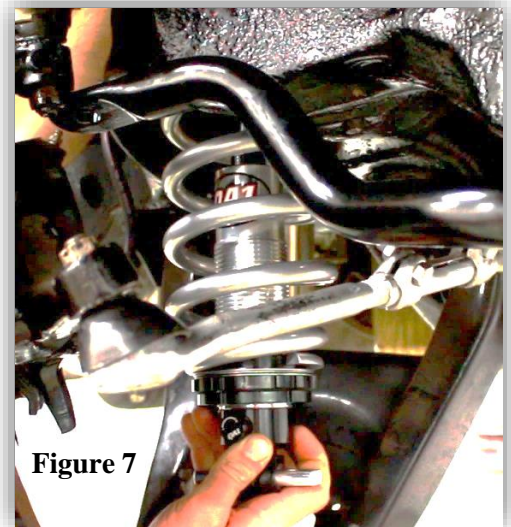

Figure 7
6. Insert the assembly into the upper spring pocket. **(Figure 7)**